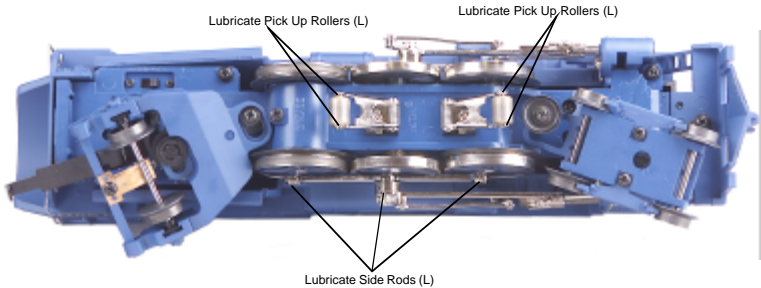
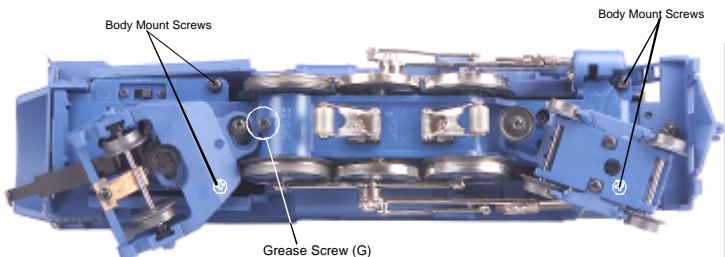
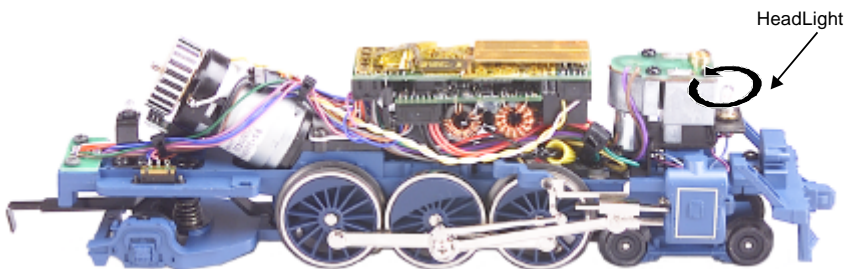

Figure 1. Lubrication Points on the Engine
Figure 2. Greasing Points on the Engine and Body Mounting Screws
Figure 5. Replacing the Headlight
3. You should lubricate all side rods and linkage components and pickup rollers to prevent them from squeaking. Lightly grease the outside idler and drive gears (marked “G” in Fig. 2 on page 10) to prevent them from squeaking. Use light household oil and follow the lubrication points marked “L” in Fig. 1 on p. 10. Do not over-oil. Use only a drop or two on each pivot point.
You should regularly lubricate all side rods and linkage components and pickup rollers to prevent them from squeaking. Use light household oil and follow the lubrication points marked “L” in Fig. 1. Do not over oil. Use only a drop or two on each pivot point.
Remove the locomotive boiler from its chassis as shown in Figure 2. Once the body has been removed, rotate the headlight bulb counter-clockwise as seen in Figure 5 to remove.